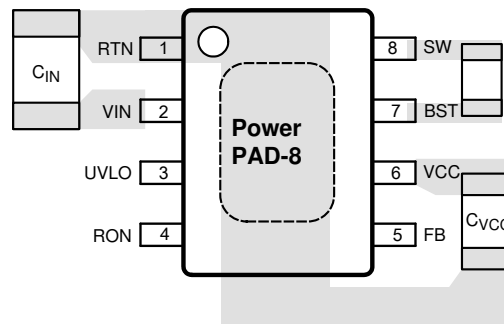

图 10-1. Placement of Bypass Capacitors
1.  $C_{IN}$ : The loop consisting of input capacitor ( $C_{IN}$ ),  $V_{IN}$  pin, and RTN pin carries switching currents. Therefore, the input capacitor should be placed close to the IC, directly across  $V_{IN}$  and RTN pins and the connections to these two pins must be direct to minimize the loop area. In general it is not possible to accommodate all of input capacitance near the IC. A good practice is to use a 0.1- $\mu$ F or 0.47- $\mu$ F capacitor directly across the  $V_{IN}$  and RTN pins close to the IC, and the remaining bulk capacitor as close as possible (see 图 10-1).
2.  $C_{VCC}$  and  $C_{BST}$ : The  $V_{CC}$  and bootstrap (BST) bypass capacitors supply switching currents to the high and low side gate drivers. These two capacitors should also be placed as close to the IC as possible, and the connecting trace length and loop area must be minimized (see 图 10-1).